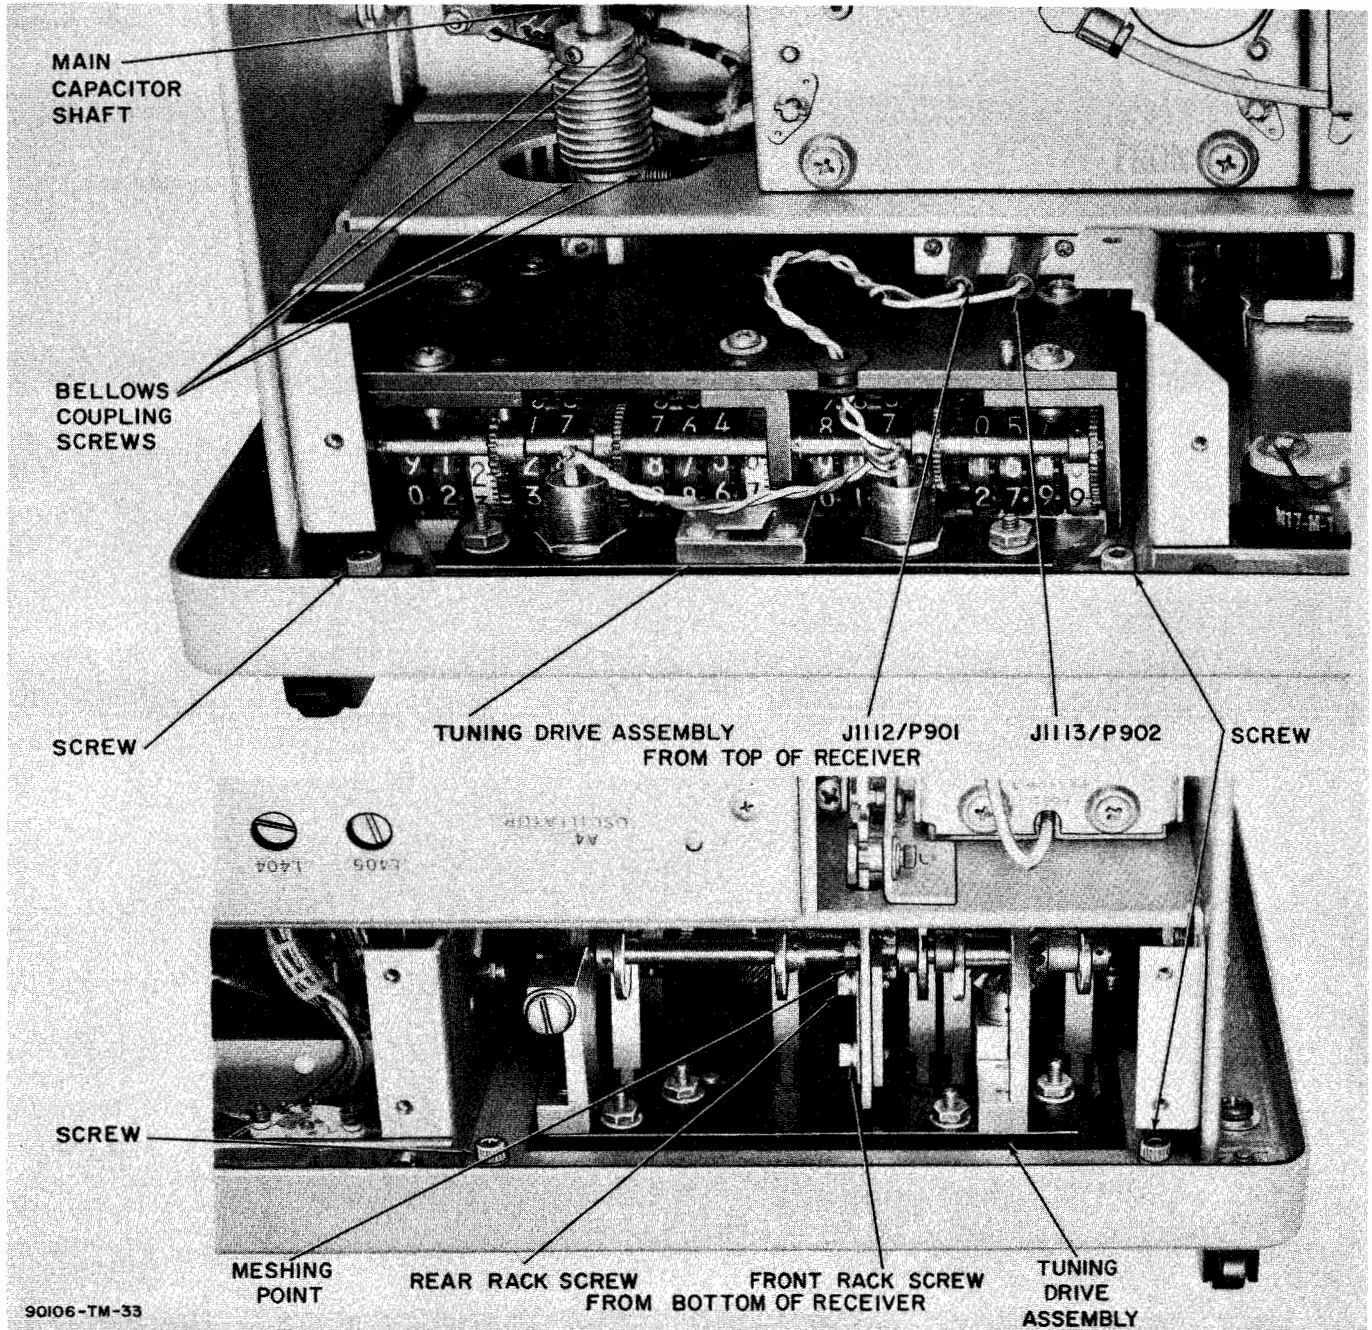

Figure 6-5. Removal of Tuning Drive Assembly
f. REMOVAL OF TUNING DRIVE ASSEMBLY (see figure 6-5). - To remove the tuning drive assembly from the main chassis, proceed as follows: